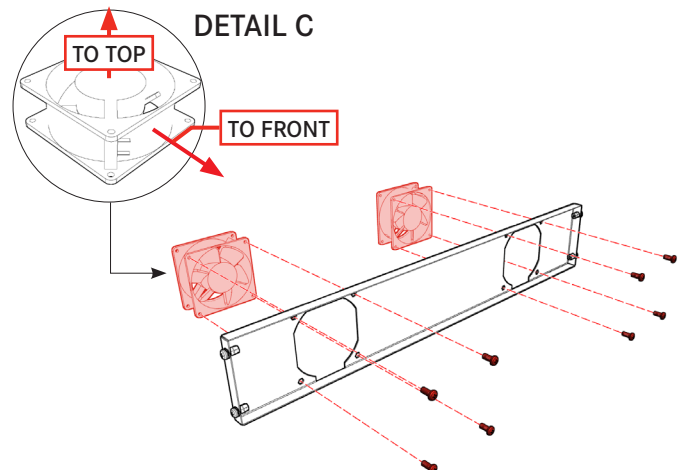

Fig. 16
4. Remove four (4) M5 × 12 screws fastening EACH fan to evaporator fan assembly (Fig. 16).
Ensure that electrical connections for fans are in the correct position (Fig. 16, Detail C) and that the direction of air flow is inward, as indicated by the arrows stamped into each fan. Fan wiring should NEVER be pinched against fan assembly when reinstalling.